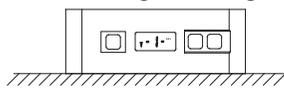

Fig.3
- Install battery, or long press(>6s) "on/off" button to power off and then power on, "-1-" appears on the display(Fig.3).